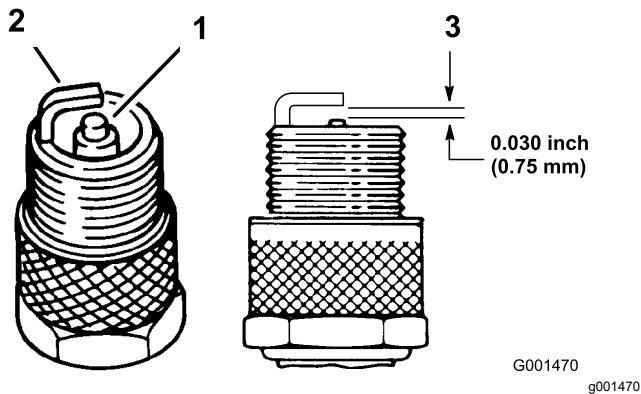

Figure 20
1. Look at the center of the spark plugs (Figure 20). If you see light brown or gray on the insulator, the engine is operating properly. A black coating on the insulator usually means that the air cleaner is dirty.
2. Check the gap between the center and side electrodes (Figure 20). Bend the side electrode (Figure 20) if the gap is not correct.
3. Connect the wires to the spark plugs (Figure 20).